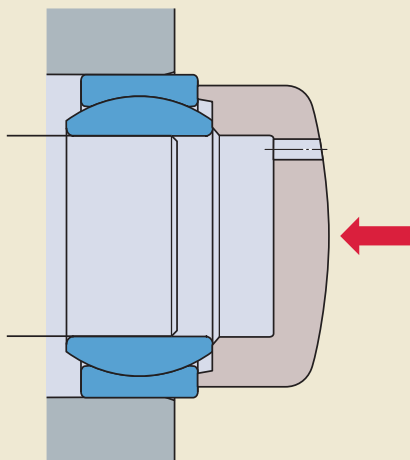

Fig. 4
- for larger numbers of bearings, suitable tools can be used in combination with a press (→ **fig. 4**)